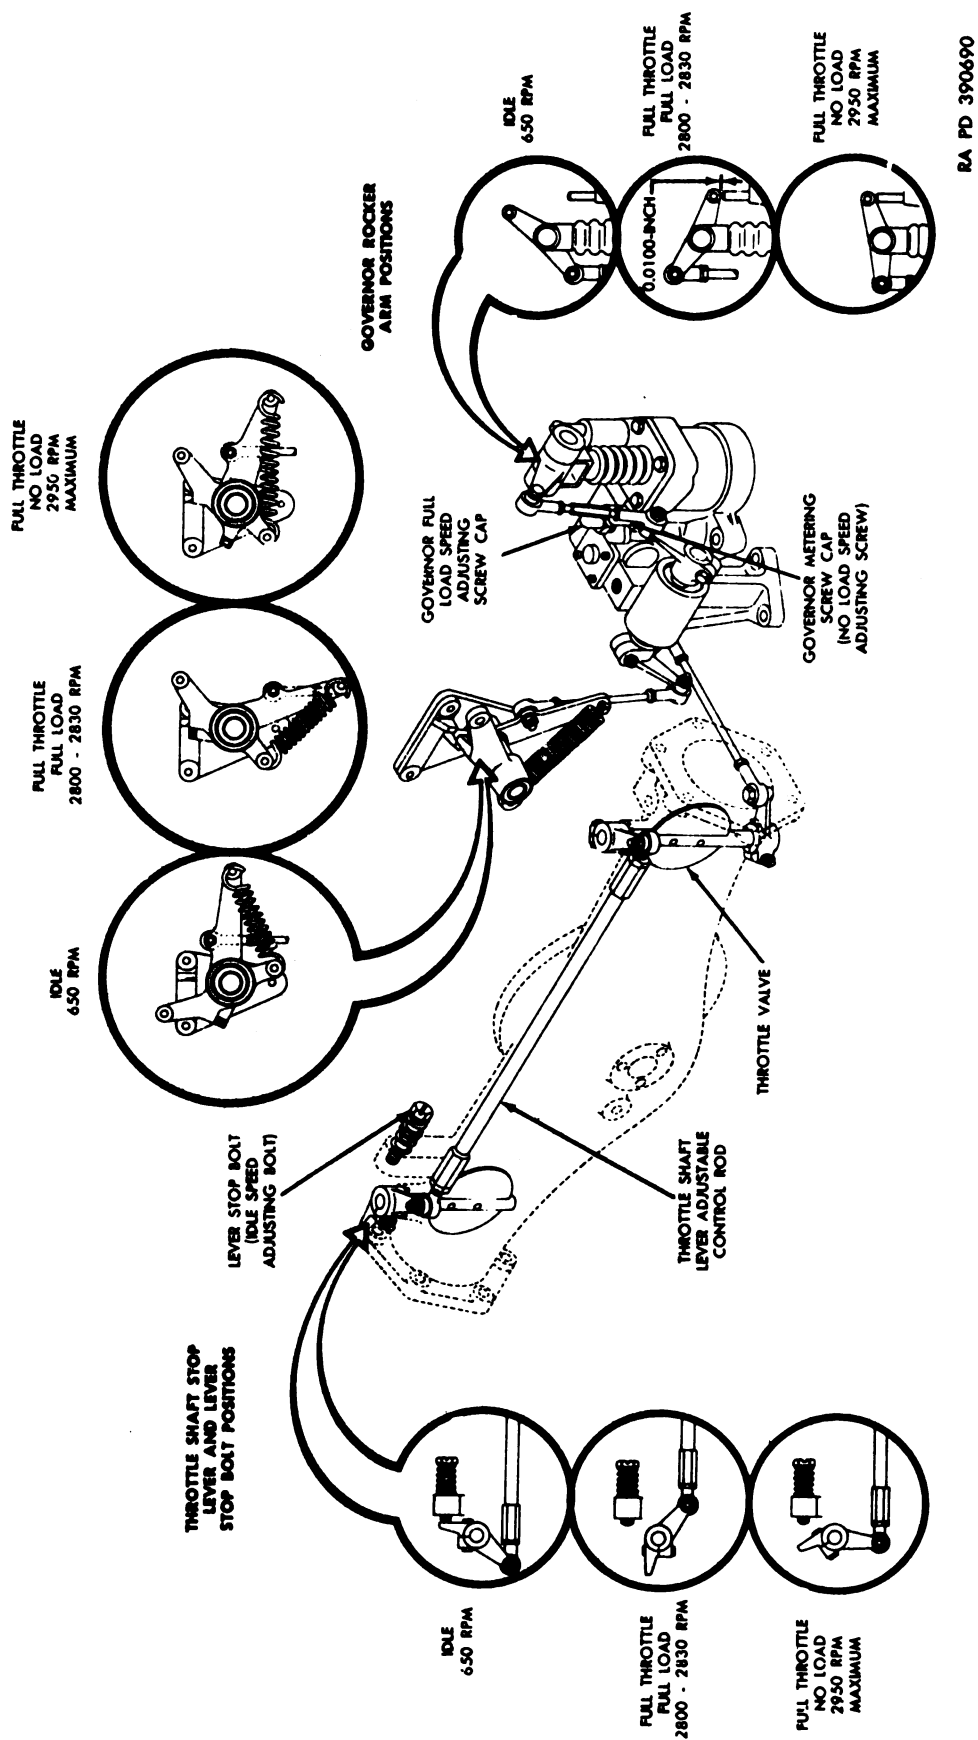

Figure 190. Throttle control linkage and related parts operating positions—schematic view.
(1) With vehicle control lever and vehicle-control-to-throttle-control lever (fig. 190) held against full throttle stops, both throttle valves should be in full open position and there should be 0.0100-inch clearance between governor rocker arm and governor rocker arm stop.
(2) With vehicle control lever and vehicle-control-to-throttle-control levers in the closed position (limit of counterclockwise travel) and lever stop bolt (idle speed adjusting bolt) (fig. 190) turned counterclockwise to provide no clearance at throttle shaft stop lever, both throttle valves should be in the closed position.
(3) If the conditions in (1) and (2) are not as stated, adjust throttle control linkage as described in *b* below.
- (1) Turn lever stop bolt (fig. 190) clockwise to provide clearance between bolt and throttle shaft stop lever when throttle is closed.
- (2) Loosen hex jam nuts on throttle shaft lever adjustable rod (fig. 190). Hold vehicle-control-to-throttle-control lever in the closed position (limit of counterclockwise travel). Turn throttle shaft lever control rod in rod end ball bearings until throttle valves are fully closed. Tighten hex jam nuts against rod end ball bearings.
- (3) Loosen hex jam nuts on throttle-shaft-lever-to-governor-lever rod assembly.
- (4) Hold vehicle-control-to-throttle-control lever against full throttle stops. Adjust turnbuckle on throttle-control-shaft-lever-to-governor-lever rod assembly to provide 0.0100-inch clearance between governor rocker arm and rocker arm stop. Tighten hex jam nuts against rod end ball bearings.
- (5) If both throttle valves are full open, adjustment is correct. Move vehicle control lever to closed position. Turn lever stop bolt two turns beyond contact with throttle shaft stop lever.
- (a) Remove governor full load speed adjusting screw cap (fig. 190). Loosen adjusting screw lock nut.
- (a) Remove cap from governor metering screw (no load speed adjusting screw) (fig. 190). Loosen metering screw lock nut.